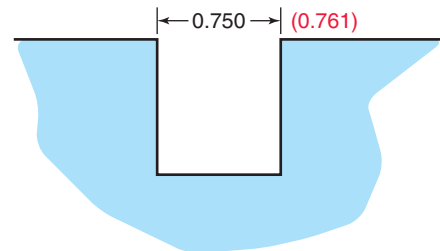

Figure 20-37 Problem 2.
- In monitoring a long run on the CNC vertical mill, you find the condition for a nominal 0.750-in. slot width as shown in Fig. 20-37. It is being profile milled with a